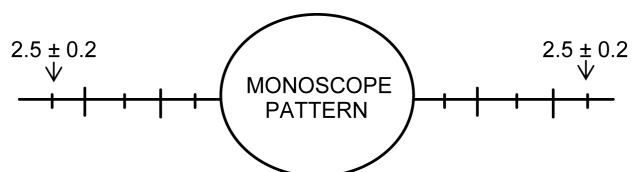

Fig. 1
- b. Adjust H-AMP so that both edges are within  $2.5 \pm 0.2$ . Refer to Fig. 1.